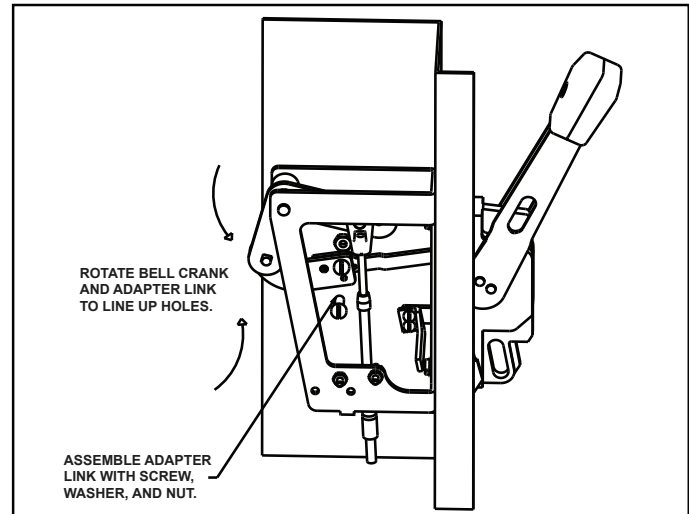

Fig. 1-5 Assembly of Adapter Link to Actuator Link.
5. Rotate the bell crank towards the handle and rotate the handle to the ON position. Align the adapter link and attach it to the actuator link using the 1/4-20 pan head screw and nut (see Fig. 1-5).